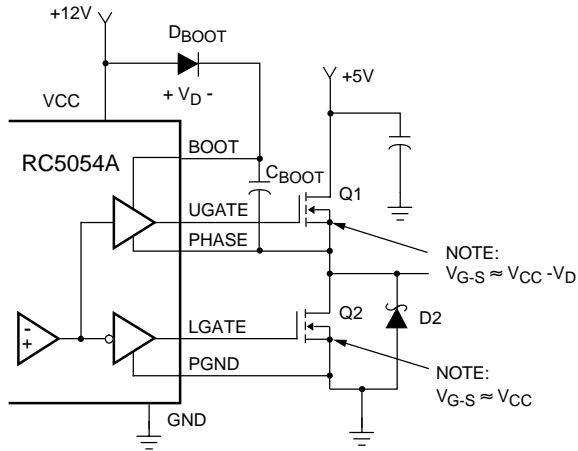

Figure 7. Upper Gate Drive - Bootstrap Option
Figure 7 shows the upper gate drive (BOOT pin) supplied by a bootstrap circuit from VCC. The boot capacitor, CBOOT develops a floating supply voltage referenced to the PHASE pin. This supply is refreshed each cycle to a voltage of VCC less the boot diode drop (VD) when the lower MOSFET, Q2 turns on. Logic-level MOSFETs can only be used if the MOSFET's absolute gate-to-source voltage rating exceeds the maximum voltage applied to VCC.